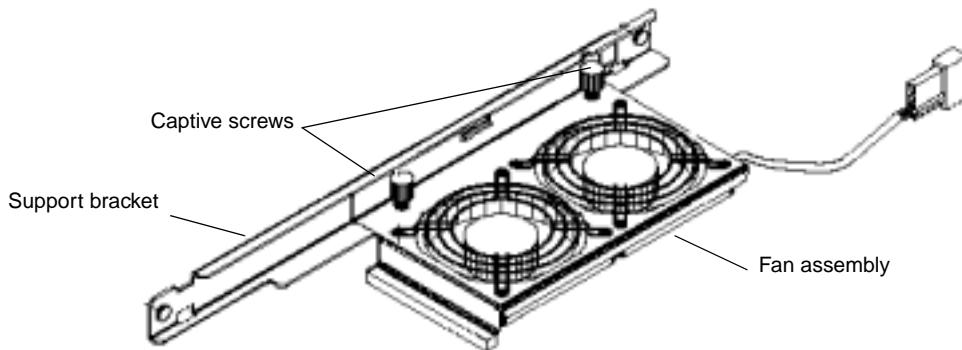

Figure 4-13 Fan Kit - Captive Screws
1. Remove the fan assembly from the support bracket by loosening the two captive screws on the fan assembly (see Figure 4-13).